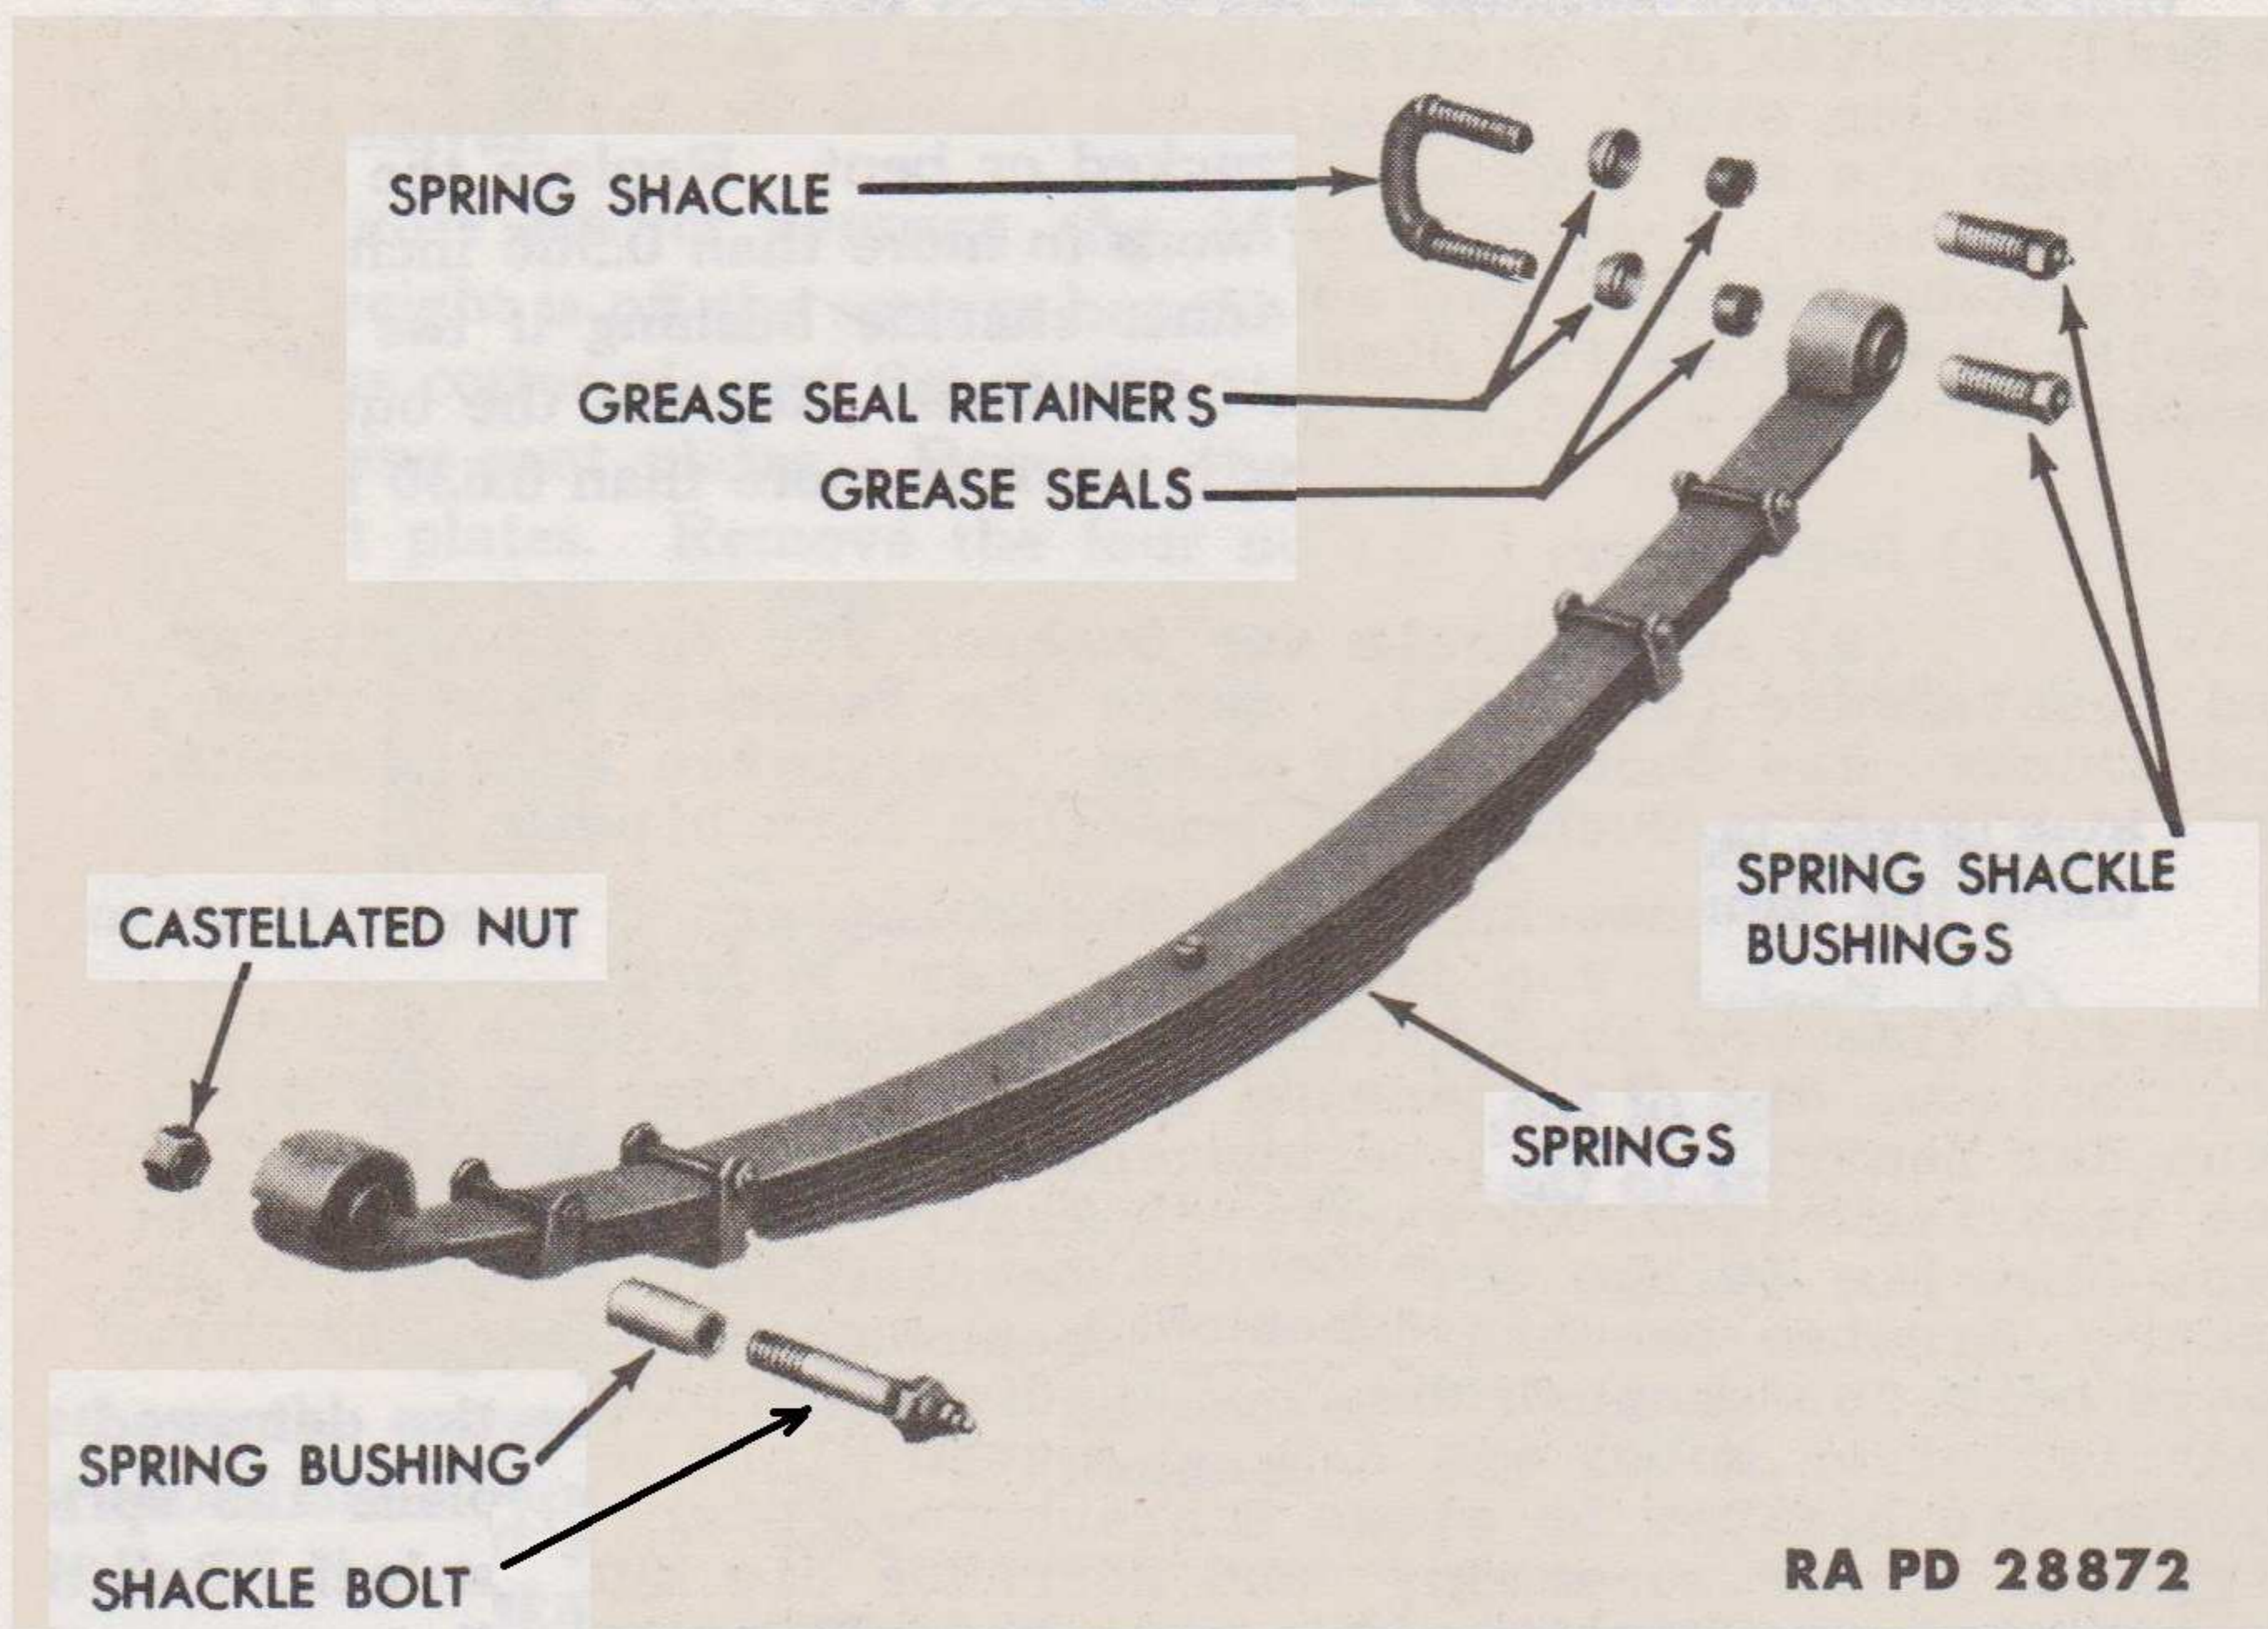

Figure 85 — Rear Spring and Shackles
(1) **CLEANING AND INSPECTION** (figs. 85 and 86). Clean all parts in dry-cleaning solvent. Replace spring leaves or spring clips that are cracked or bent (step (2) (b), below). Replace spring shackles or shackle bolts that are bent or excessively worn. Replace the shackle bolt if the diameter is worn to less than 0.055 inch. Replace the spring bushing in the spring if the inside diameter is worn to more than 0.565 inch (step (2) (a), below). Replace the torque reaction leaves if they are cracked or bent. Replace the bushing in the torque reaction spring if worn to more than 0.566 inch (step (2) (a), below). Replace the inner shackle bushing if the inside diameter is worn to more than 0.570 inch. Replace the outer shackle bushing if the inside diameter is worn to more than 0.630 inch.